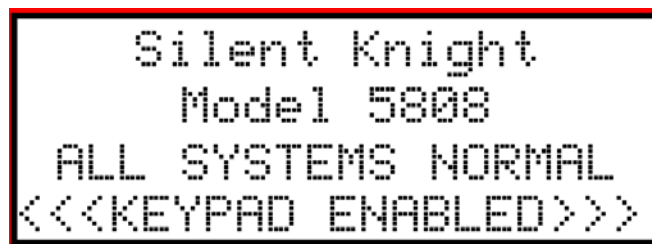

Figure 6-7 Keypad Enabled Screen
2. The display prompts you to press the  or ENTER key to bring up the Main Menu (see Figure 6-7).